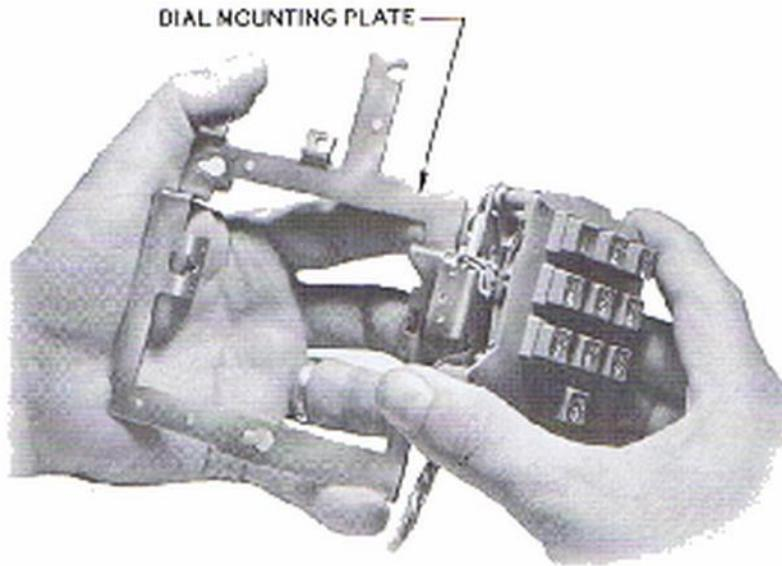
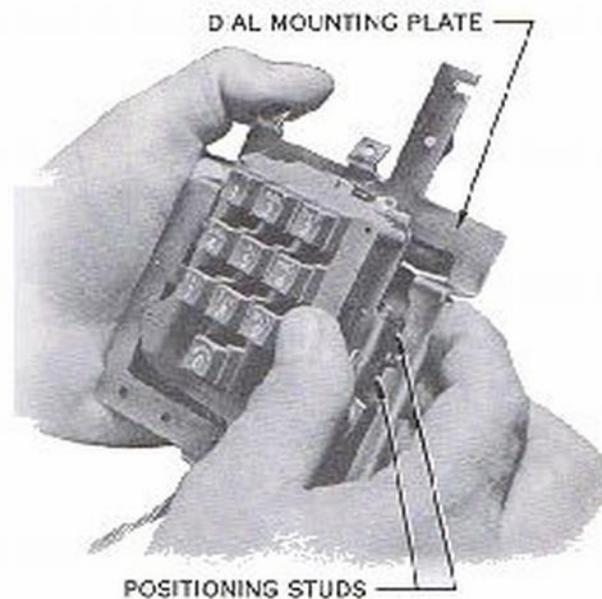

Fig. 25 — Holding Dial and Dial Bracket for Dial Replacement
Fig. 26 — Placing Dial on Dial Mounting Plate
- (1) Hold mounting plate in hand (Fig. 25).
- (2) Grasp dial by diagonal corners (Fig. 25).
- (3) Lower side into dial mounting plate until positioning studs engage positioning holes.
- (4) Hold side of mounting plate on fingers (Fig. 26). Place thumb on top of dial beside middle row of pushbuttons (Fig. 26). Press dial downward until positioning studs snap into positioning holes.
- (5) Place dial mounting screws.
- (6) Connect dial leads.
- (7) Place dial mounting over dial mounting screws, slide to right, and tighten screws.